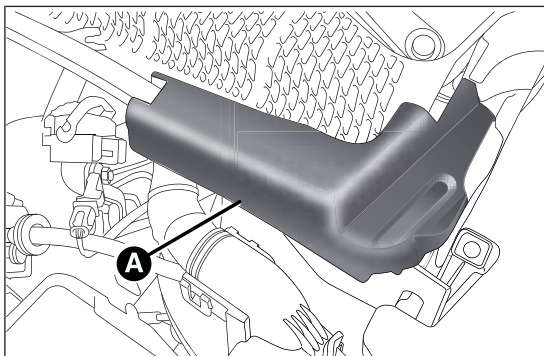

fig. 152
- move the cover A fig. 152 aside;